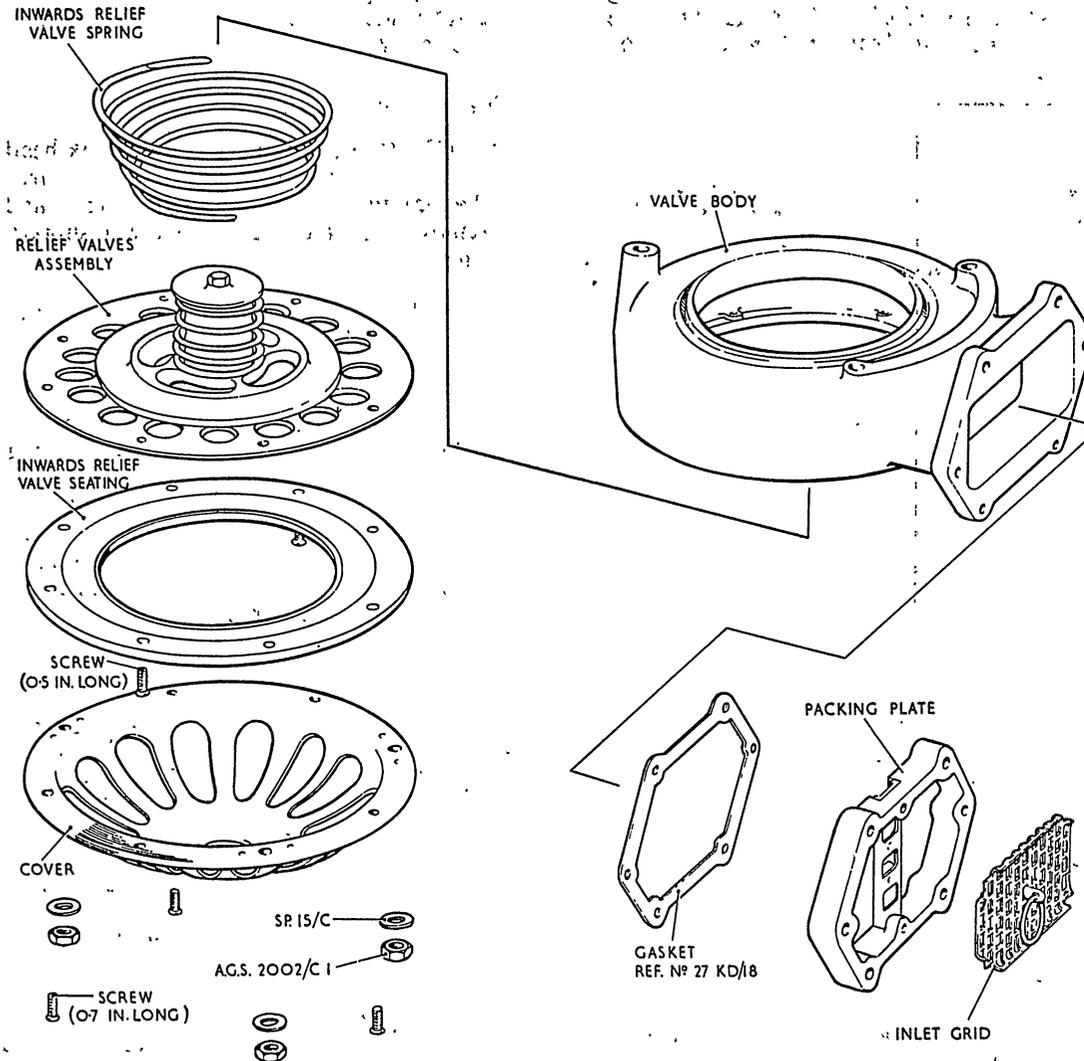

Fig. 2. Bottom chamber
- (1) Remove the inlet grid and packing plate assembly (Mk. 12 unit only) and the gasket. Separate the grid from the packing plate (fig. 2), but do not dismantle these parts further unless damage is apparent.
- (2) Removal of the three 2 B.A. nuts and washers at the periphery of the bottom chamber cover will permit separation of
Bottom chamber (fig. 2)